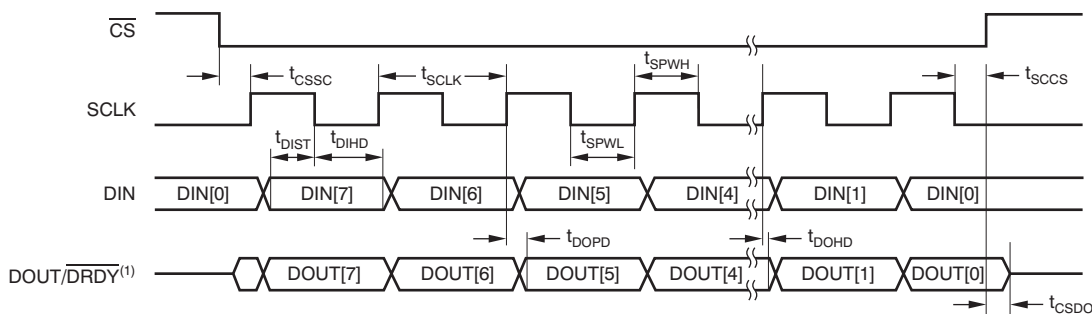

Figure 1. Serial Interface Timing
Table 1. Timing Characteristics for Figure 1 (1)